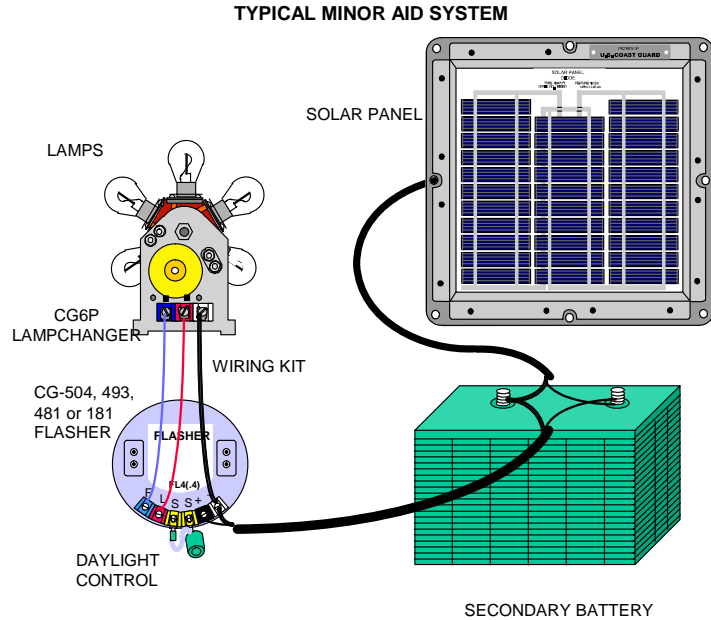

Figure 1-1
1. Minor Aids. With the addition of the appropriate lantern, the components shown in Figure 1-1 are used on buoys, structures and nighttime ranges with single lights. Rotating beacons and high intensity nighttime ranges will have the same lighting equipment; however larger batteries and more solar panels may be used.